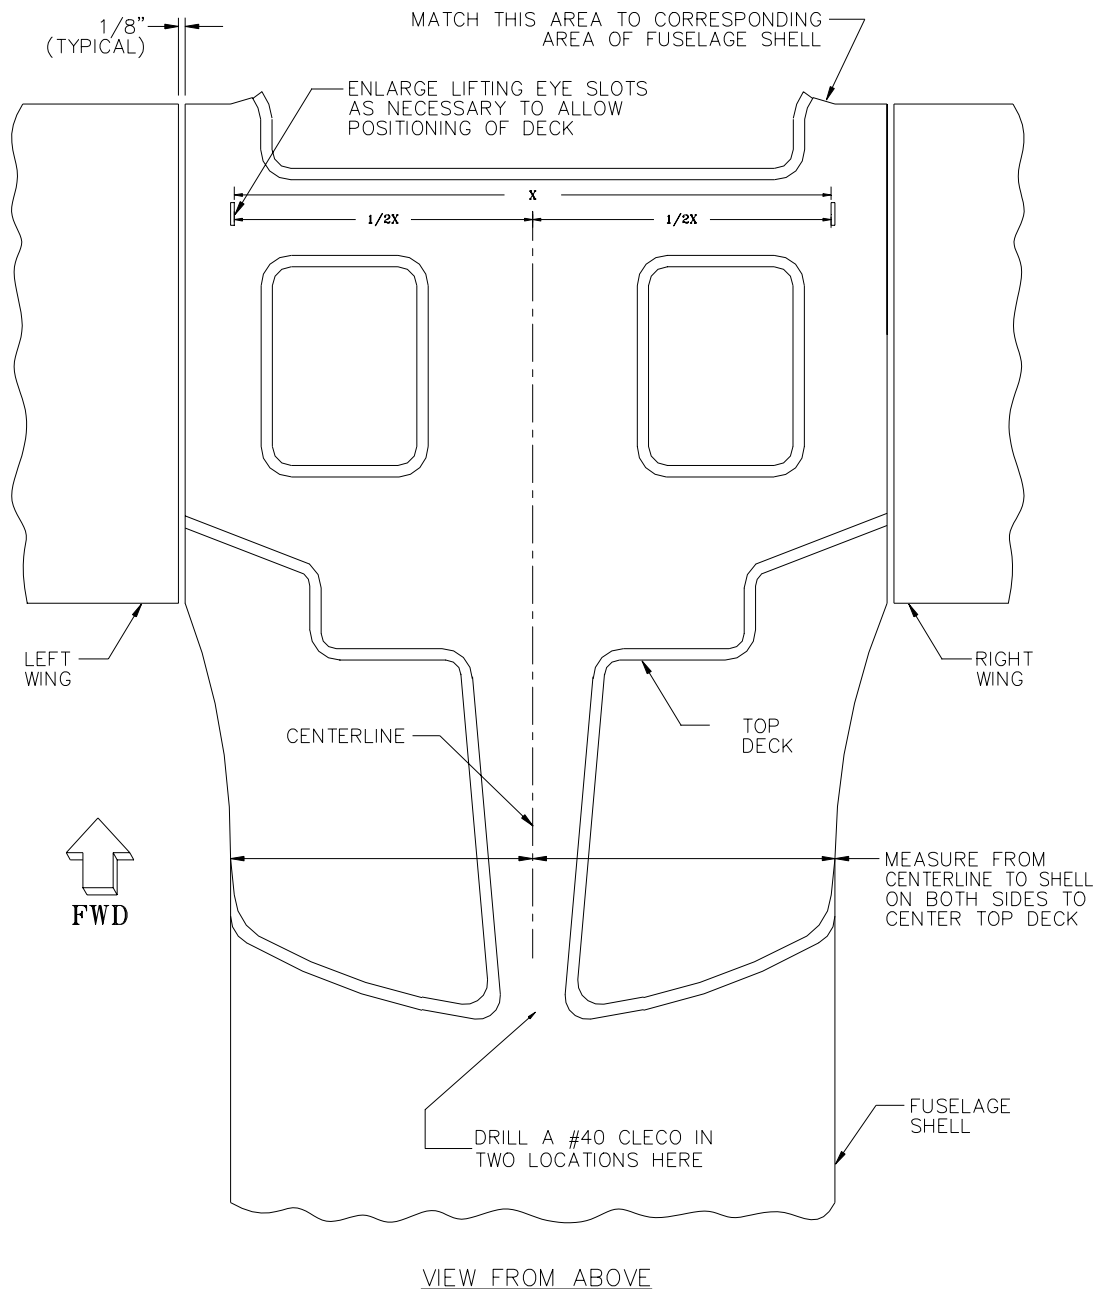

Figure 25 Centering the aft end of the top deck
As shown in Figure 25, slots must be cut in the top deck for the lifting eyes on the cage to protrude through. ***The dimensions shown are approximate dimensions. Depending on your cage and shell alignment, these dimensions can vary significantly!*** Before cutting, measure the distance (X) between the lifting eyes on the cage. Use this dimension to accurately lay out the distance between the slots. Do not cut the full
Next, check the fit of the top deck by matching up the leading edge joggles while attempting to position the aft end of the deck approximately centered. As shown in Figure 25, take a measurement on both sides of the airplane where the hatch cover joggle flange runs out into the wing root to a point near the center of the top deck. Reposition the top deck aft end to get it centered. Make any adjustments in the lift eye slots necessary. When you are satisfied with the fit at the aft end, drill two #40 index holes through the top deck and the joggle flanges, 1/2" off centerline (one inch apart from each other) and 1/2" forward of the joggle. Trim any areas along the leading edge joggle to get a good fit between the two surfaces. Again try to maintain as much joggle overlap as possible. You are trying to get a good fit so the two parts mate well and will require minimal body work later.